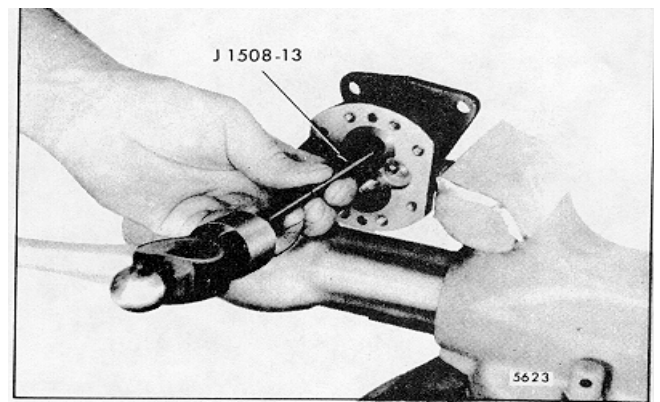

Fig. 5 - Removing Oil Seals
7. If the oil seals need replacing, remove them with oil seal remover J 1508-13 (Fig. 5). Clamp the pump body in a bench vise and tap the end of the tool with a hammer to remove the outer and inner seals.